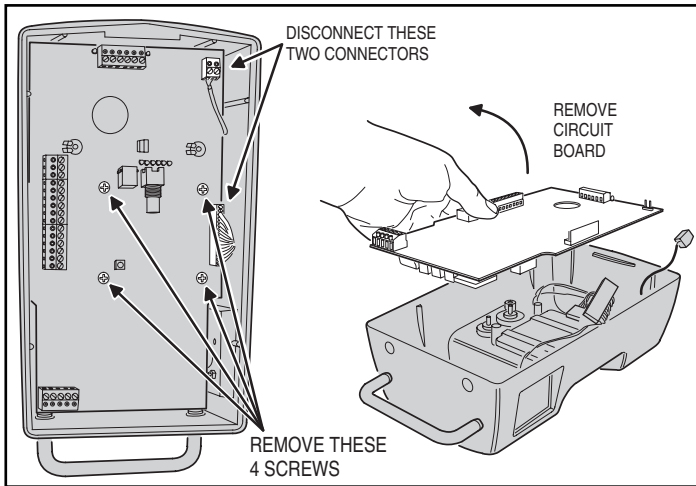

Figure 21. Removing the RE-1 Circuit Board
1. Disconnect the wiring harness connector and remove the antenna terminal block. Remove the four circuit board retaining screws and the RE-1 circuit board (see Figure 21).